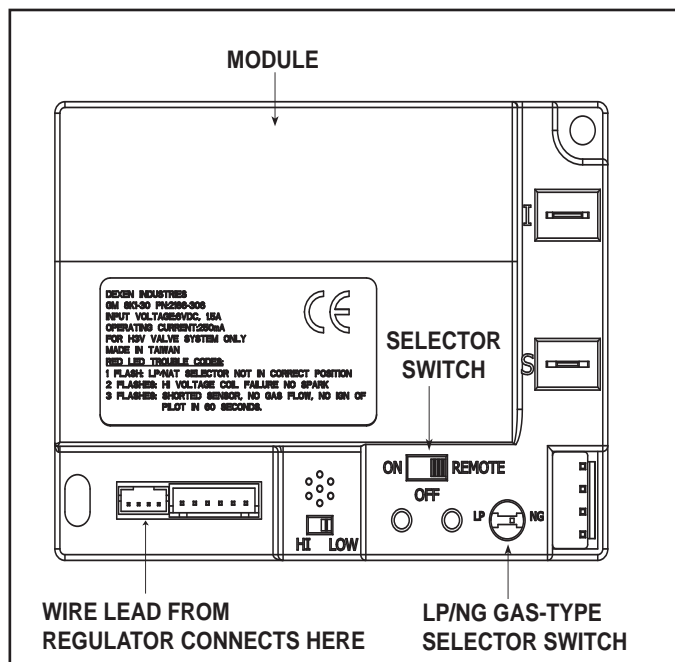

Figure 2.3 Control Module
1. The control module has an ON/OFF/REMOTE selector switch that must be set. See Figure 2.3.